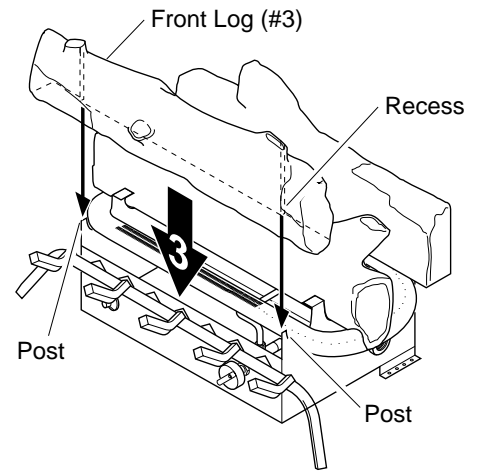

Figure 19 - Installing Front Log (#3)
3. Locate the recesses on the back of the front log (#3). Fit these recesses between the posts of the grate base (see Figure 19).